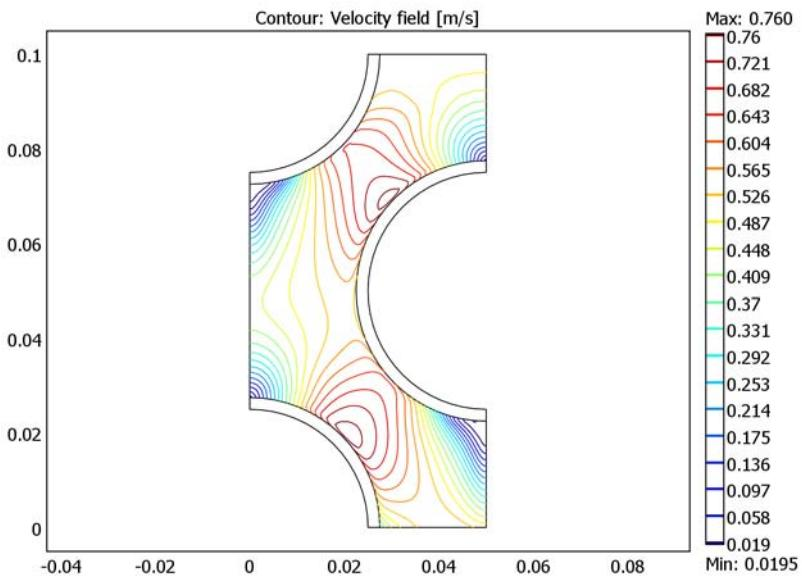

Figure 3-32: Velocity contours for a uniform inflow velocity.
- 1 To generate Figure 3-32 open the **Postprocessing>Plot Parameters** dialog box.
In Figure 3-32 it is clear that the velocity profile on the outflow boundary is not uniform; instead, it varies considerably. Because the heat exchanger system is periodic in its structure, the velocity field should be periodic. The next step is therefore to add periodic boundary condition for the  $y$ -velocity,  $v$ , and for  $k$  and  $\omega$ . The mass flux is controlled by an integral constraint implemented in the **Global Equations** dialog box.